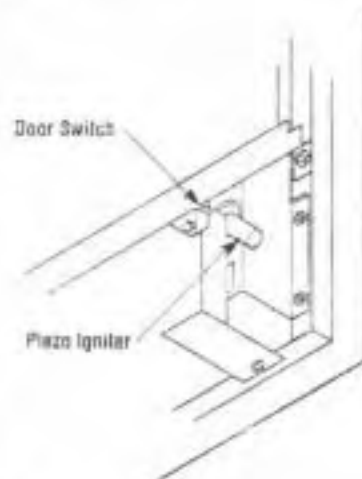
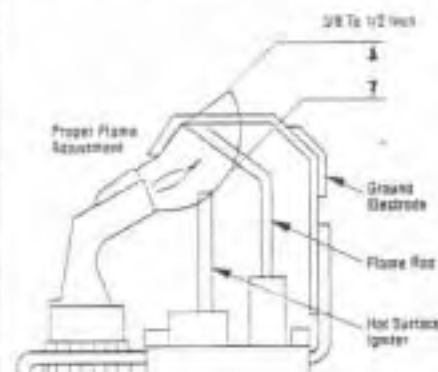

Figure 42
Figure 43
***Note:** To operate the appliance while leak testing, ensure that the door switch is depressed or the unit will not light (refer to Figure 42).
To light the burner, turn "ON" the remote wall switch, manually depress and hold the door switch (Figure 42) and rotate the gas valve control knob counterclockwise to the "ON" position ("ON" will be at the bottom side of the valve).
To light the burner, turn "ON" the optional remote wall switch, manually depress and hold the door switch (Figure 42) and turn the gas control switch to the "ON" position. Ensure the igniter lights the pilot. The pilot flame should engulf the flame rod as shown in Figure 43.